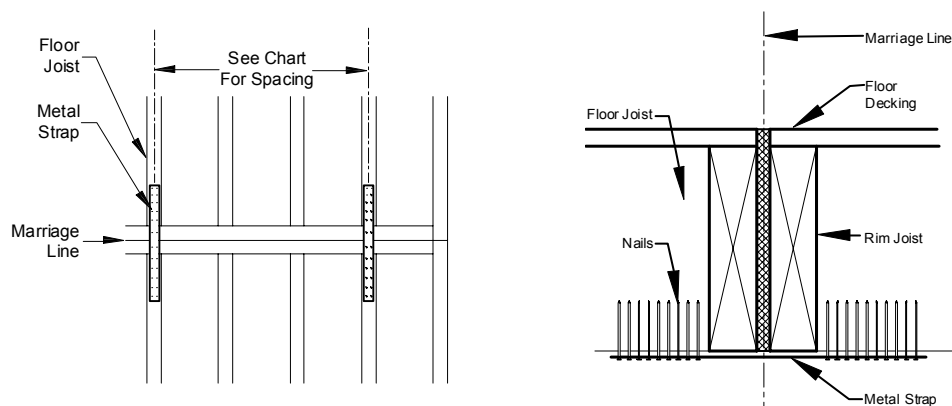

Figure 30. Metal strapping for Wind Zones II and III
- In Wind Zones II and III, fasten metal straps of minimum 26 gauge, 1-1/2" wide galvanized steel spaced per **Table 14** and fastened per **Table 15** to the underside of the floor joists (**Figure 30**). Select a strap length sufficient to hold the required fasteners. Straps are not required in Wind Zone I.